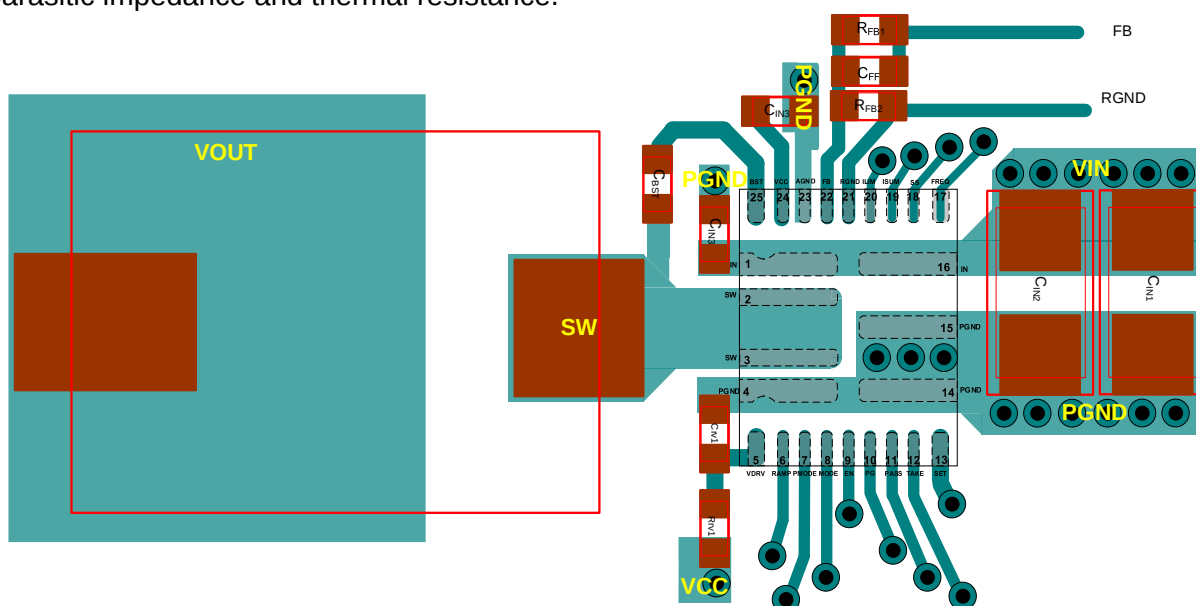

Figure 9: Recommended PCB Layout
Efficient PCB layout is critical for stable operation. For the best performance, refer to Figure 9 and follow the guidelines below:
- Efficient PCB layout is critical for stable operation. For the best performance, refer to Figure 9 and follow the guidelines below: